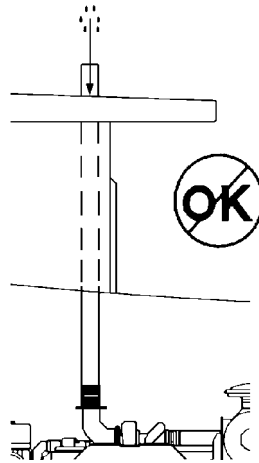
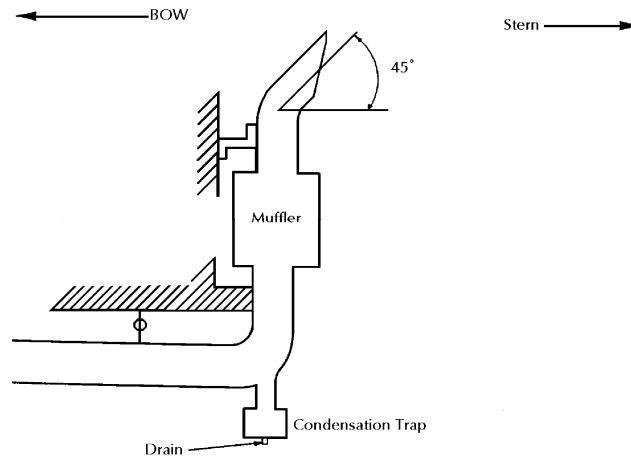

Figure 34: Improper Dry Exhaust Design
Figure 35: Proper Dry Exhaust Design
- ! The exhaust system must be designed to prevent the entrance of water into the engine or turbocharger whether it be from spray, rain, washing, or any other source (see figure 34 and figure 35).
Condensation traps and drains can be used to help keep moisture and water out of the engine (see figure 35).